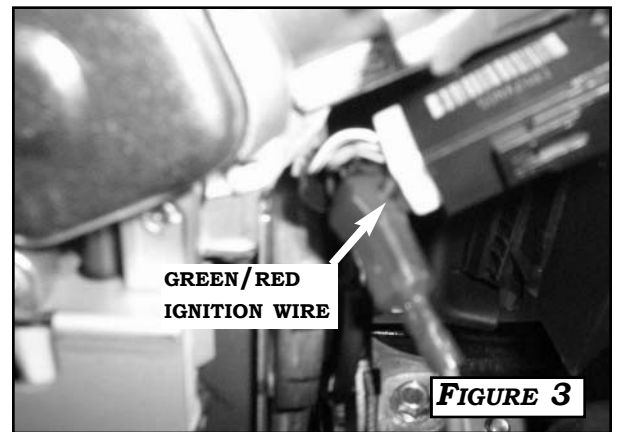

FIGURE 3
1. LOCATE THE WHITE CONNECTOR AT THE IGNITION SWITCH. CONNECT THE **RED IGNITION WIRE** (+12V IGNITION) FROM THE MAIN CRUISE HARNESS TO THE **GREEN/RED WIRE** OF THE IGNITION SWITCH CONNECTOR. **FIGURE 3**